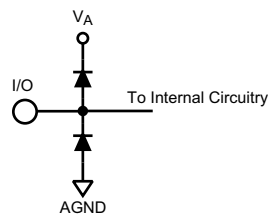

Figure 1.
- (1) The inputs are protected as shown below. Input voltage magnitudes above V_A or below GND will not damage this device, provided current is limited per Note 4 in the Absolute Maximum Ratings table. However, errors in the A/D conversion can occur if the input goes above 2.6V or below GND as described in the Operating Ratings section, see Figure 1.
- (2) With a full scale differential input of $2V_{P-P}$, the 14-bit LSB is 122.1 μV .
- (3) Typical figures are at $T_A = 25^\circ\text{C}$ and represent most likely parametric norms at the time of product characterization. The typical specifications are not guaranteed.
- (4) This parameter is specified in units of dBFS - indicating the value that would be attained with a full-scale input signal.
- (2) With a full scale differential input of $2V_{P-P}$, the 14-bit LSB is $122.1\text{ }\mu\text{V}$.
- (4) This parameter is guaranteed by design and/or characterization and is not tested in production.